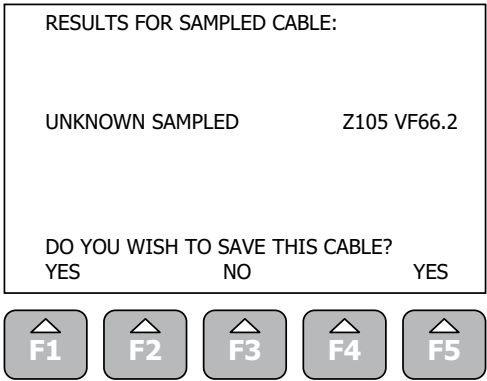

Figure 2-33
Step 4 – Press ENTER again to go to the Length Entry screen. First enter the sample’s physical length in feet or meters (meters enters in nnnn.nnn format to include mm) and press ENTER. Then, if set to Feet Mode, enter the “inches” and press ENTER. In the meters mode the TDR will jump directly to calculating the Vf. The results screen will appear as shown in figure 2-33 with both the Impedance and Velocity displayed.
V Scale or Vertical Scale displays the TDRs reading of the Impedance of the cable. If the TDR is correctly set up the cable being measured will have its expected impedance centered and about twice that visible in the Y axis as shown above. Impedance variations from a cable's nominal expected value (in this case 100 Ohms) are events. In figure 2-33 there is only one event displayed, a major impedance rise at approximately 35 feet indicating an open.